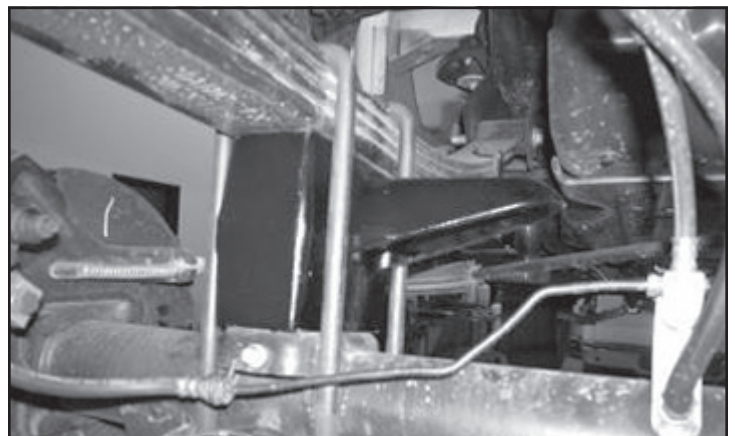

FIGURE 53 - STEP 47
47. Locate and install the rear lift blocks FTBK52. The extended bump stop perch will be facing inboard of the truck. Using the provided u-bolts, nuts and washers, align the axle, lift blocks, and springs and torque u-bolts to 129 ft.-lbs. **SEE FIGURE 53**